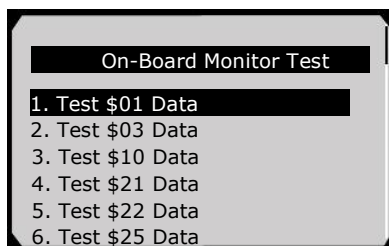

Figure 6.28
- 5) From **On-Board Monitor Test** menu, use the **UP/DOWN** scroll button to select a test to view and press the **OK** button (Figure 6.28).